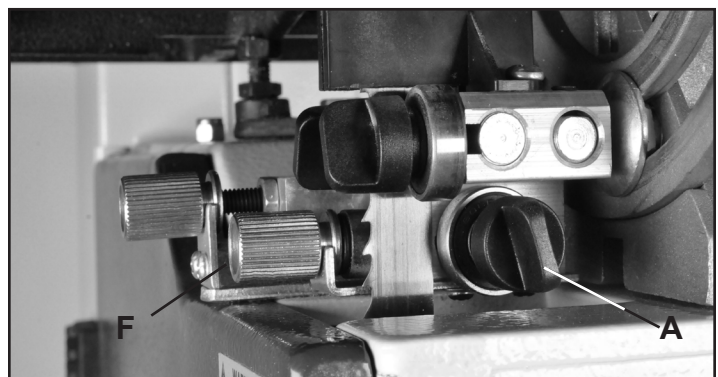

FIGURE 27
4. Adjust the rear bearing guide to be just clear of the back of the saw blade. Loosen the rear guide's Locking Knob (A, Fig 27), and move the rear guide towards the blade by turning the lower, front micro-adjustment Knob (B, Fig 27). When the correct adjustment is made, lock the guide in place by tightening the Locking Knob (A).